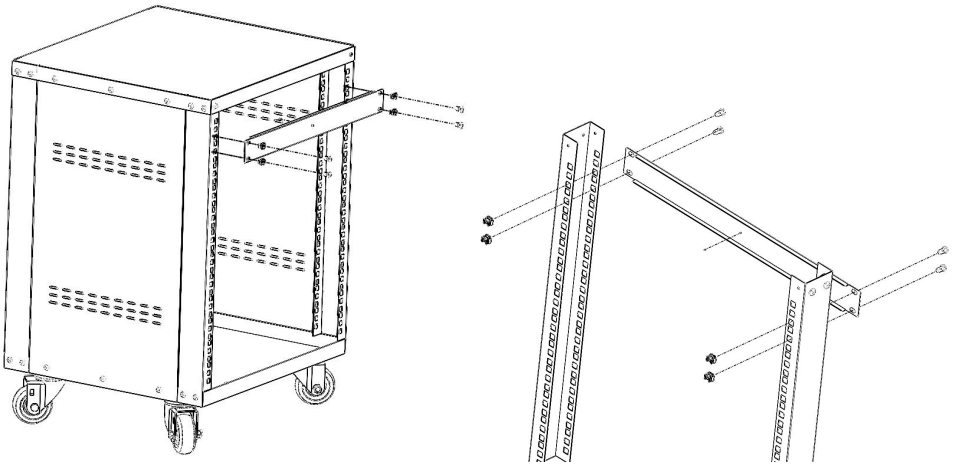

Figure 5
5. Place 1U Blind Panel on the Rack. Secure with the 4pcs M6 Cage Nuts and 4pcs M6*12 cross head screws. See Figure 5.